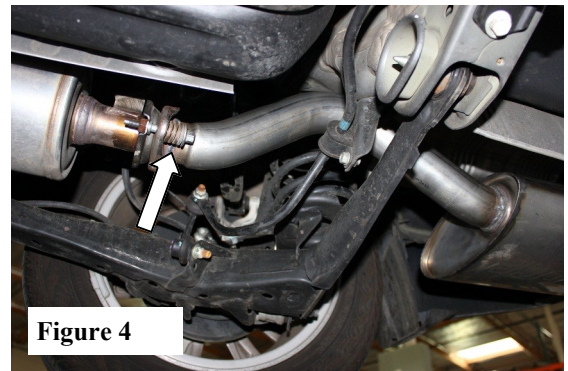

Figure 4
1. Place Muffler Assembly into position using factory gasket and spring hardware. (See Fig. 4) Do not tighten hardware.